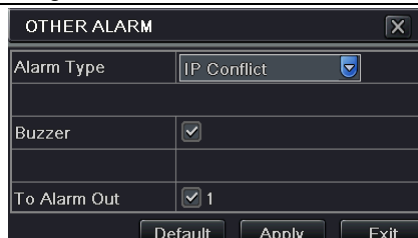

Fig 4.26 Other Alarm
Step 1: Enter into system configuration → other alarm. Refer to Fig 4.26.